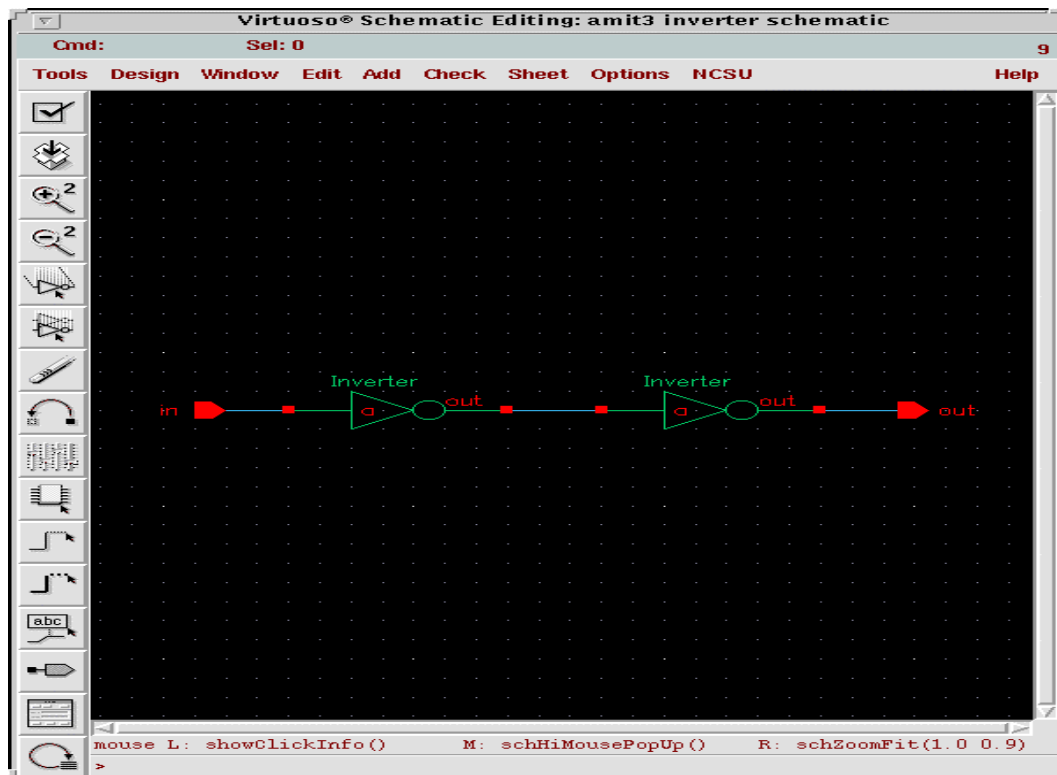
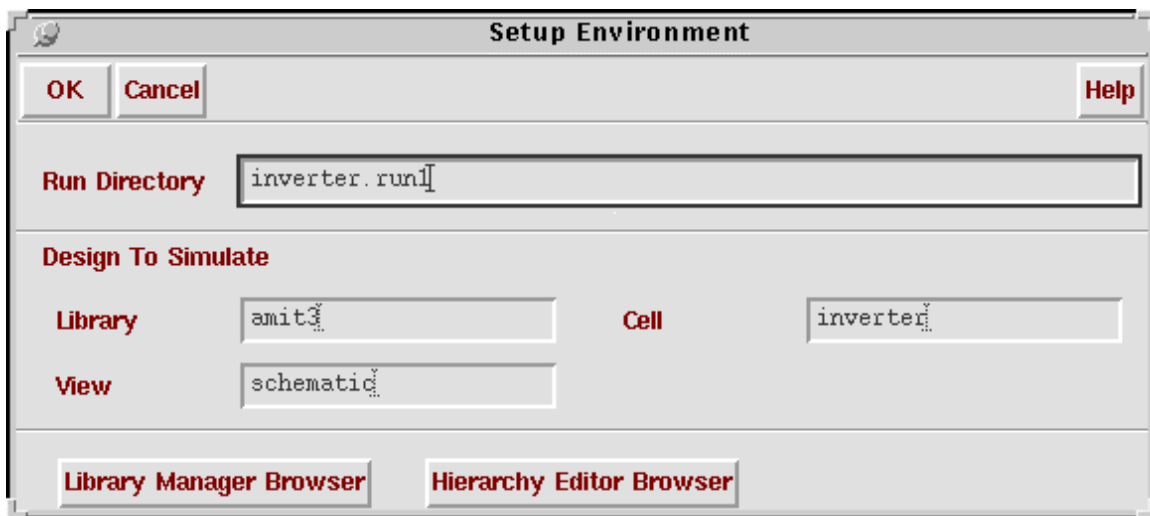

Fig 1: Inverter
Fig 2: Setup Environment
From the Library manager read the inverter schematic cell view. Save the schematic. The inverter schematic is shown in Fig 1.
- a. In Fig 1 select **Tools** -> **Simulation** -> **Verilog - XL** . The "Setup Environment" window opens as shown in Fig 2.
- b. In Fig 2, enter inverter.run1 in the **Run Directory** text box. All other default values are correct. Click **OK**.